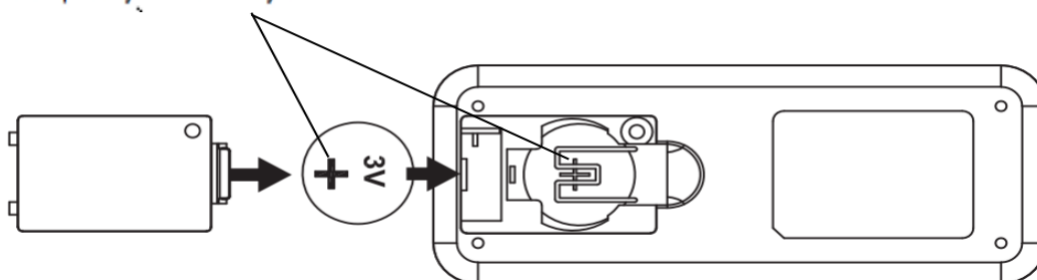

Fig. 11b
Install the 3V CR2032 DC battery into the remote. Please make sure the polarity of the battery is correct. (Fig. 11b)
- Install the batteries into the remote. Please make sure the polarity of the battery is correct. (Fig. 11b)
- Install the 3V DC battery in the compartment. Please make sure the polarity of the battery is correct. (Fig.11b)